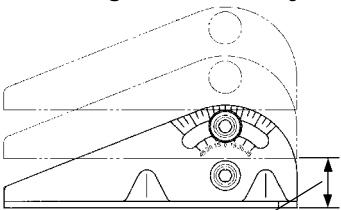

Fig. 10
5. Moving the stationary vise-jaw (Fig. 10).